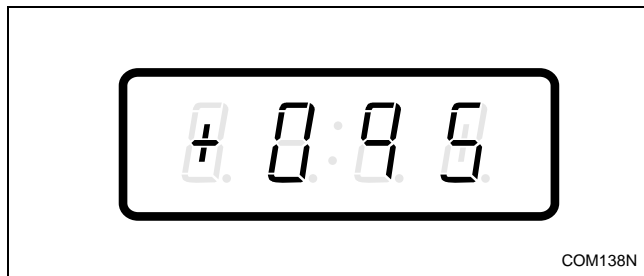

Figure 151
3. Press the DELICATES (+) or the COLD (-) keypad to scroll through the programmable options until “+095” appears in the VFD. Refer to *Figure 151*.